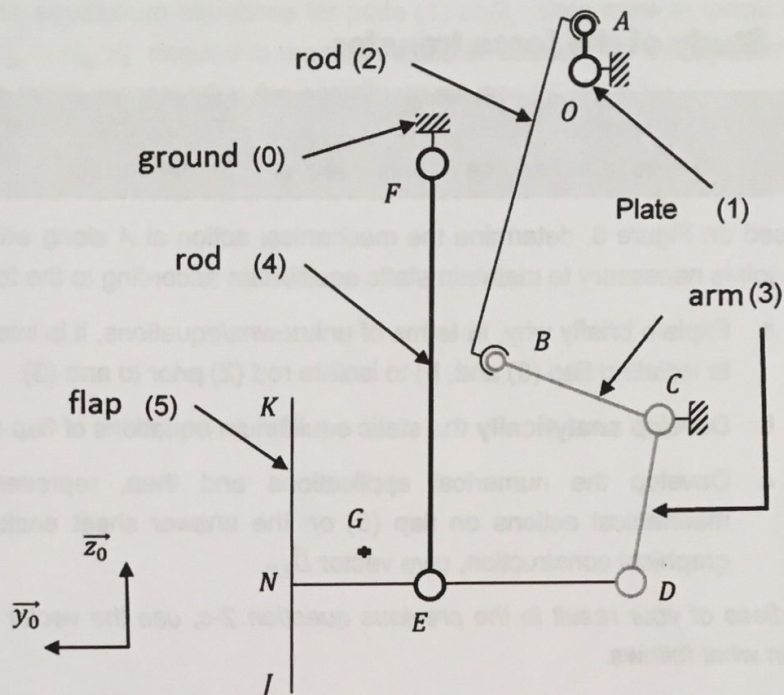

Figure 6 : Schéma cinématique du batteur
The objective of this study is to determine the couple  $\vec{C}_m = C_m \vec{x}_0$  delivered by the motor in order to maintain static equilibrium in the position defined in Figure 6, i.e., before water is moved in the basin.
2. Based on Figure 6, determine the mechanical action at  $A$  along with the forces and moments in all the joints necessary to maintain static equilibrium according to the following procedure:
- Explain briefly why, in terms of unknowns/equations, it is interesting a) to isolate rod (4) prior to isolating flap (5) and, b) to isolate rod (2) prior to arm (3).
- Develop **analytically** the static equilibrium equations of flap (5) at point  $D$ .
- Develop the numerical applications and then, represent the corresponding external mechanical actions on flap (5) on the answer sheet enclosed using the given scale. By graphical construction, give vector  $\vec{D}_{3/5}$ .